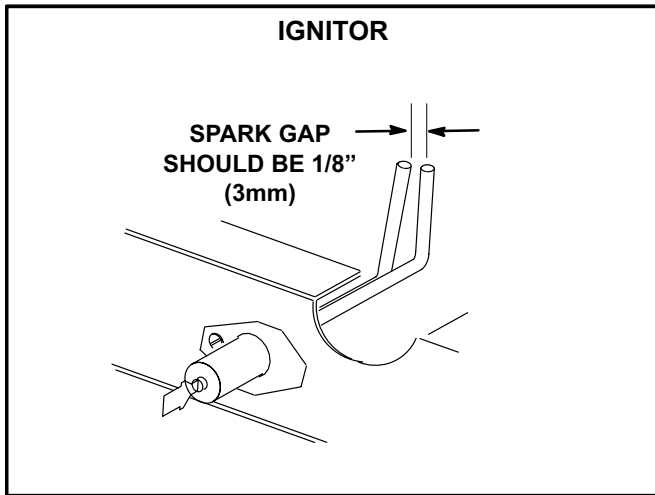

FIGURE 18
- 4- Locate the ignitor under the left burners. Check ignitor spark gap with appropriately sized twist drills or feeler gauges. See figure 18.